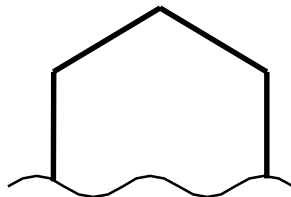

Figure 8-3 Paper Edge (Manual Load)
(1) Inserting the paper manually:
- ① Put the printer head up.
- ② Cut the edge of the paper as shown in Figure 8-3.